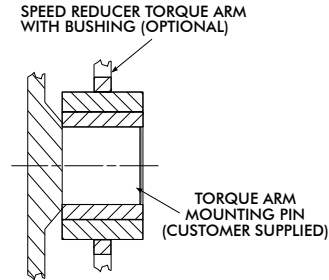

FIGURE 2.2a Insertion of Torque Arm Pins in Torque Arm
1. Insert torque arm mounting pins in torque arm on speed reducer; reference Figure 2.2a.